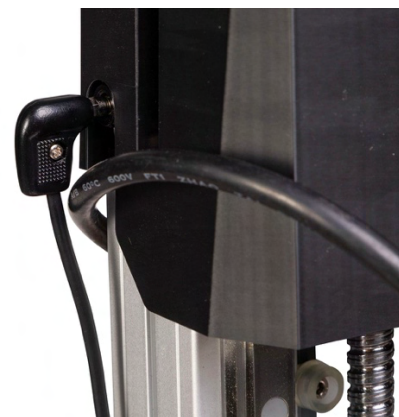

Figure 10-4
- Plug the included touch off puck into the port on the left side of the Z axis cover (see Figure 10-4).